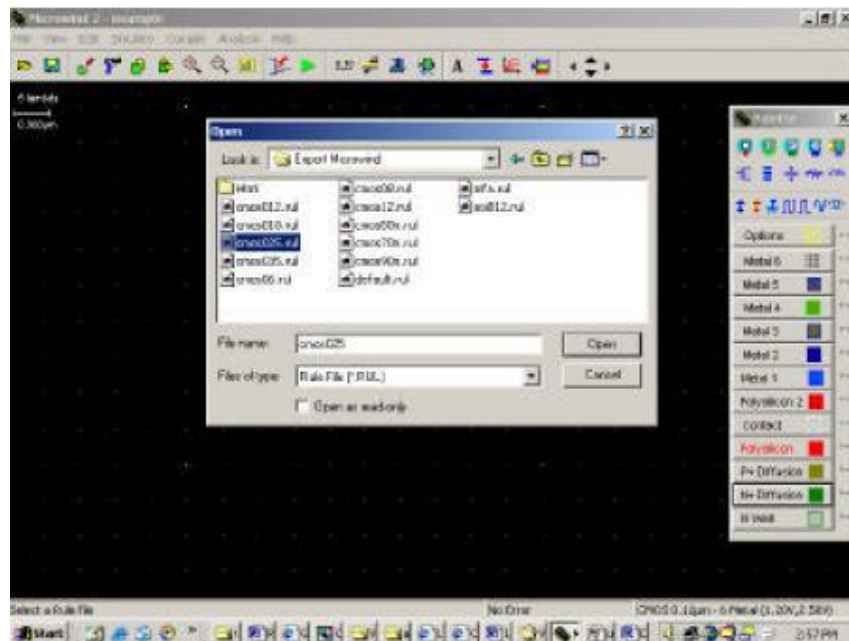

Figure 6: Foundry file selection in Microwind
- Select the *Foundry* file from *File* menu. Select “*cmos025.rul*” file. Click open, which is shown in figure 6.